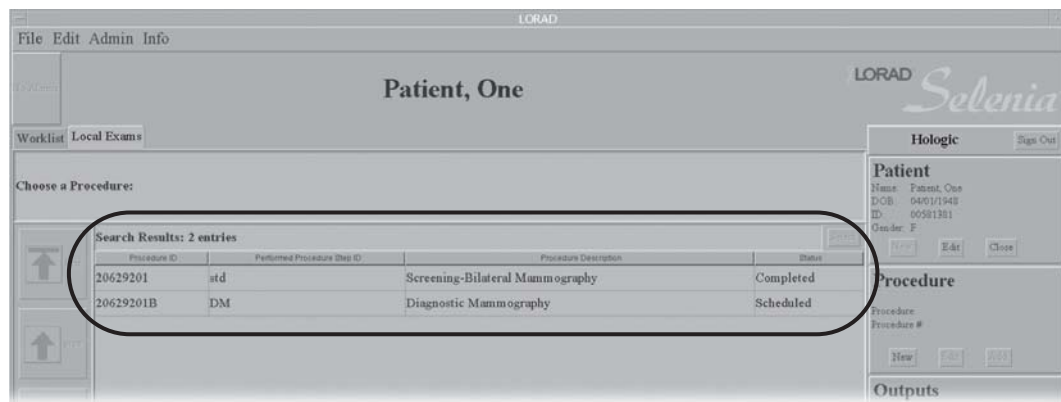

Figure 3-43: Selecting Two Procedures in the Choose a Procedure Screen
3. Click **Accept**. A new **Procedure** tab appears on the **Patient View** screen above the View icons and you can work with either Procedure (Figure 3-43).